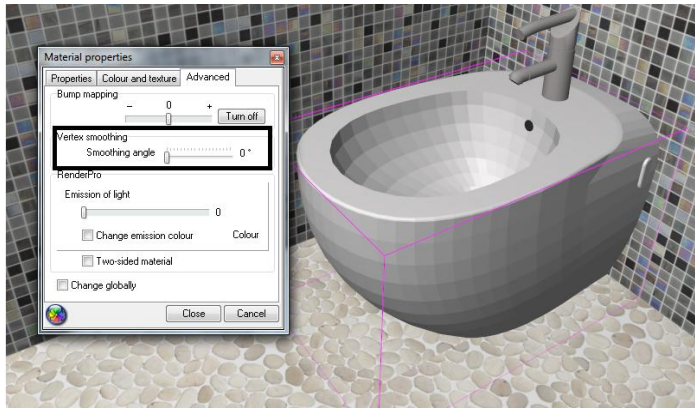

Fig. 347 – before using the function of vertex smoothing
- thanks to this option is it possible to diminish or remove sharp edges or corners in places, where objects should be smooth and rounded (Fig. 347 and 348);